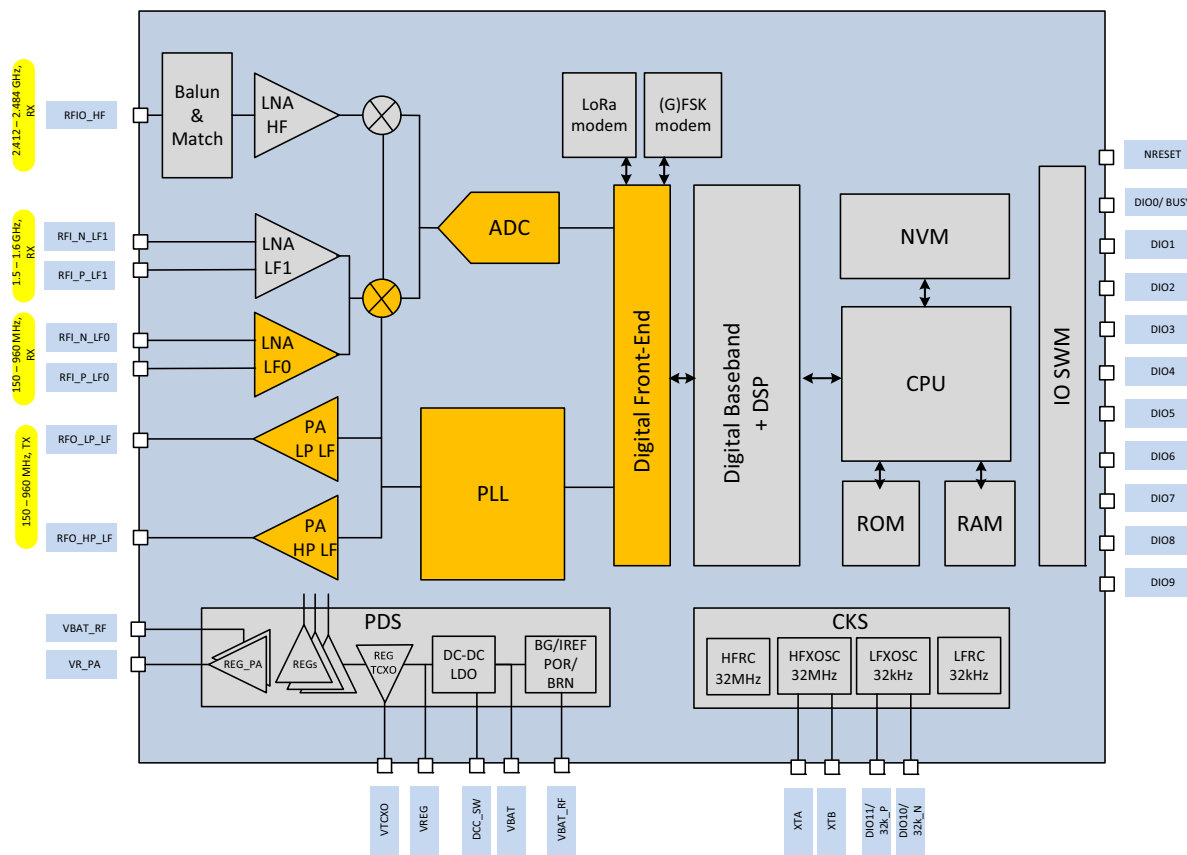

Figure 7-1: Sub-GHz Radio
The sub-GHz radio system is shown in Figure 7-1: Sub-GHz Radio below. It is composed of the frequency synthesizer (also referred as PLL), two TX paths (High Power and Low Power), and an RX path, followed by a high-bandwidth ADC. Both the ADC and the PLL are tied to the digital subsystem and to the LoRa® and (G)FSK modems.